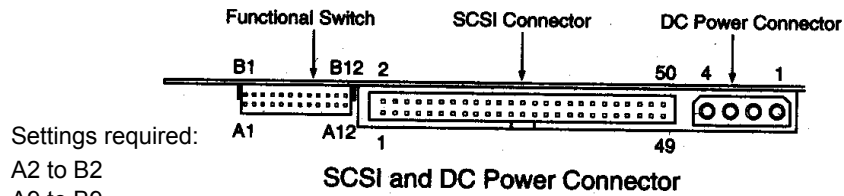

Figure 8-67 MO Drive Removal
- 2) Carefully slide the MO Drive into the front of the BEP (refer to Figure 8-67 on page 8-80). For BEP2 systems, secure the MO Drive in position with the four screws (two on each side).